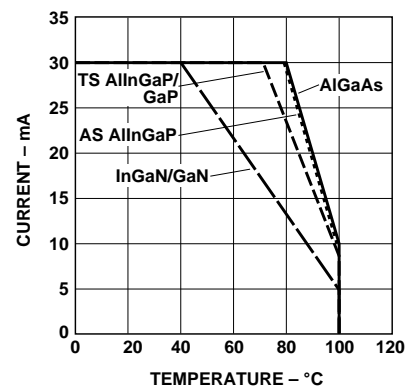

Figure 4. Maximum forward current vs. ambient temperature. Derated based on $T_{JMAX} = 110^{\circ}\text{C}$, $R_{\theta JA} = 500^{\circ}\text{C/W}$.
1. Derate linearly as shown in Figure 4.